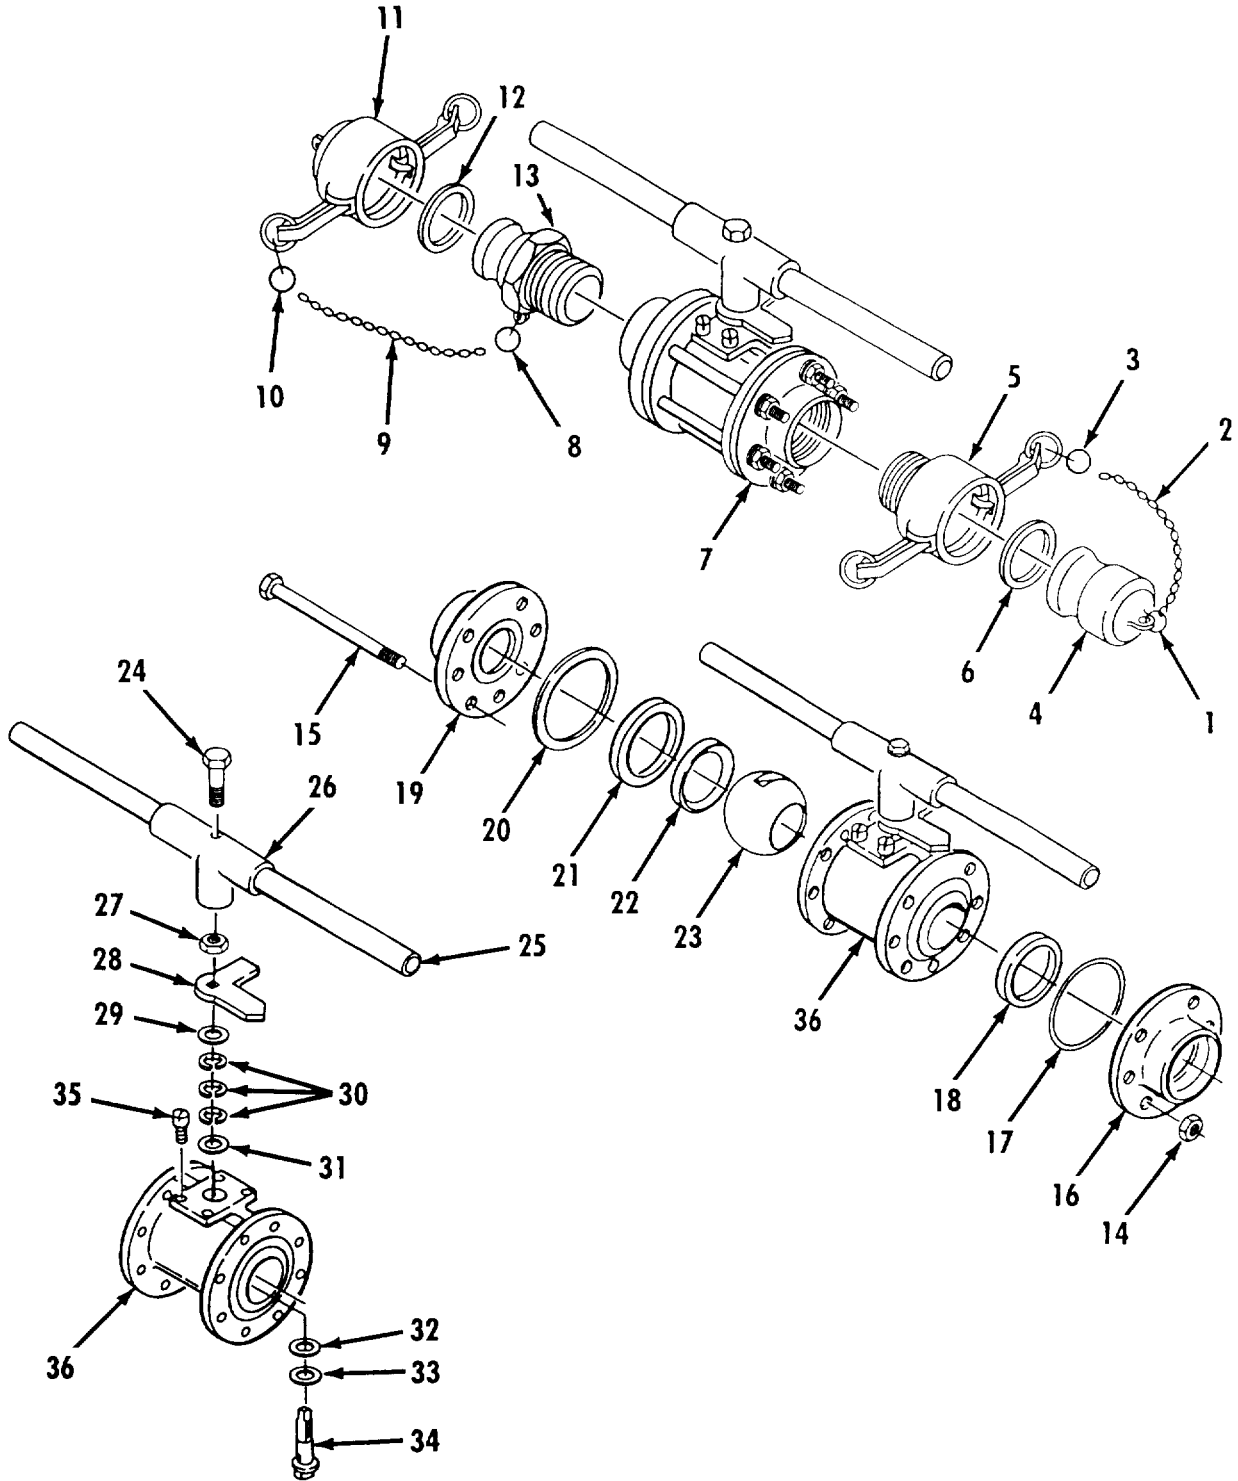

Figure 4-9. Ball Valve Coupling Repair.
- a. Disassembly. Refer to figure 4-9.
c. Inspection. Refer to figure 4-9.
- (1) Inspect ball (23) for deep scratches, dents, corrosion and signs of excessive wear.
- (2) Inspect bolts (15) and pipe ends (16 and 19) for stretched, stripped or damaged threads.
e. Assembly. Refer to figure 4-9.
- (1) Install two stop screws (35) on body (36) as marked during disassembly.
- (2) Install thrust bearing (33) and centering washer (32) on stem (34).
- (3) Install stem (34) and attached parts in body (36).
- (4) While holding stem (34) in place, slide centering washer (31), stem seals (30) and follower (29) over stem and into body (36).
- (5) Position stop (28) on top of stem (34) as marked during disassembly. Install retaining nut (27).
- (6) Slide extension (25) into wrench block (26), then position wrench block on end of stem (34),
- (7) Align bolt hole in extension (25) with hole in wrench block (26) and install bolt (24).
- (8) Turn extension (25) so that it is in closed position.
- (9) Install ball (23) in body (36). Slot in top of ball must mesh with flats on bottom of stem (34).
- (10) **Install seal retainer (21), seat (22), and body seal (20) in body (36).**